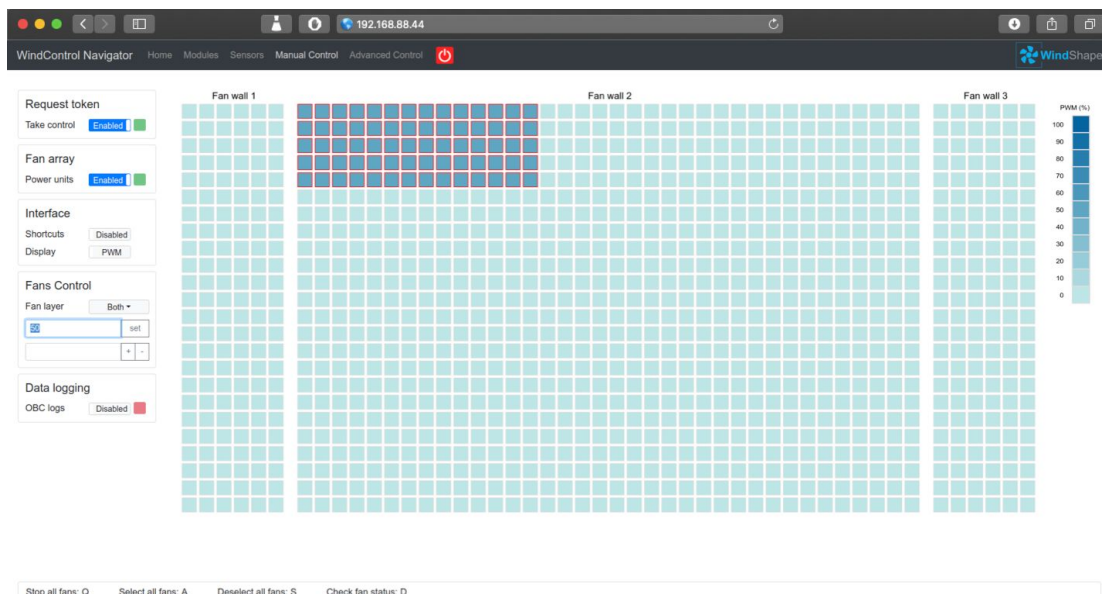

Fig. 5: WindControl GUI
- Improved WindControl Version 2.2 software (figure 5)